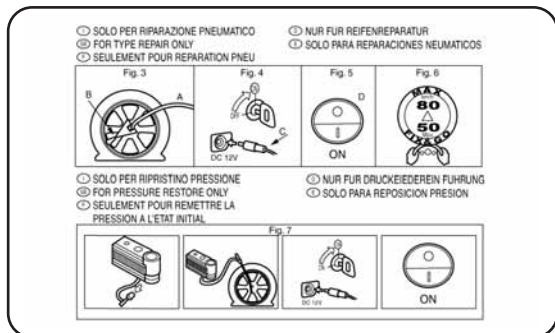

fig. 3
- an information booklet (see fig. 3), providing instructions for using the kit correctly. This booklet should be given to the personnel charged with handling the tyre treated with this kit;